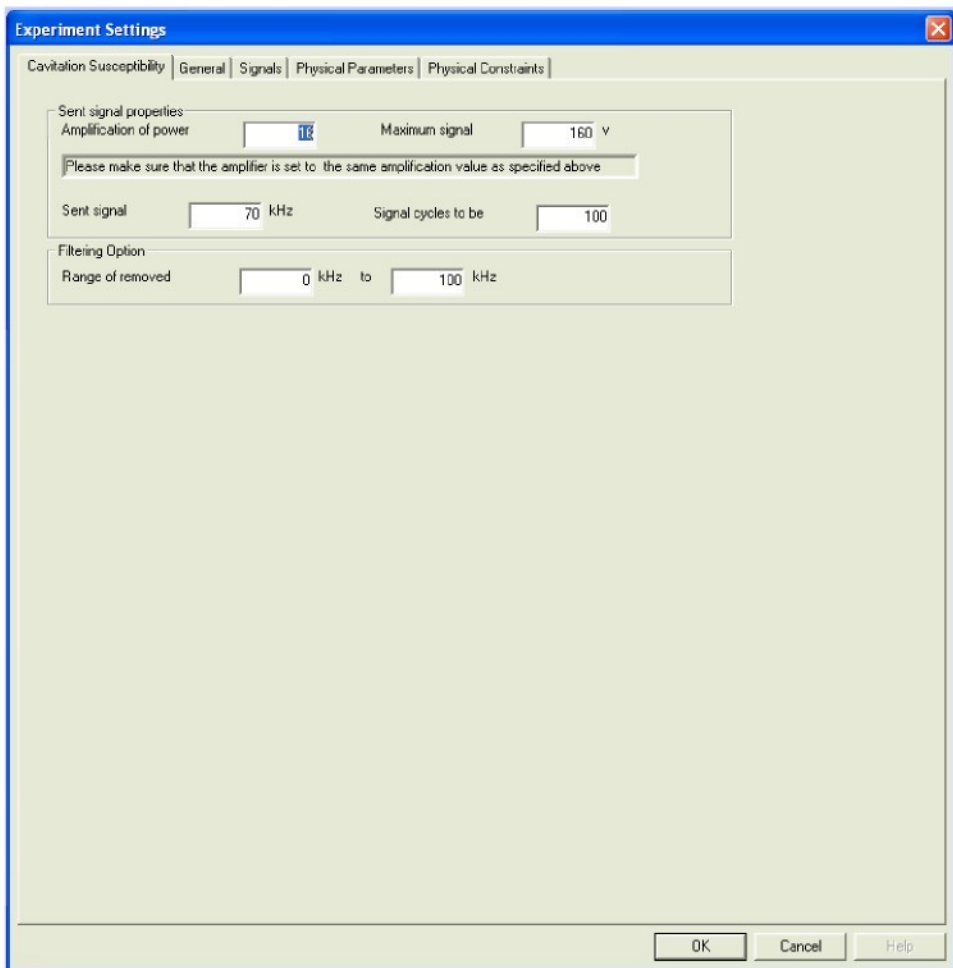

Figure 9. Experimental Settings: Cavitation Susceptibility Page.
This button invokes the Experiment Settings property sheet that enables the user to input the various environmental and operating conditions for the experiment. The property sheet can also be invoked from the menu by clicking **Experiment / Settings** or by pressing the **F7** key. There are four separate property pages as described below and shown in Figure 5 through Figure 9.
- ❑ **Cavitation Susceptibility:** This page (Figure 9) provides information for the system to measure the cavitation susceptibility.